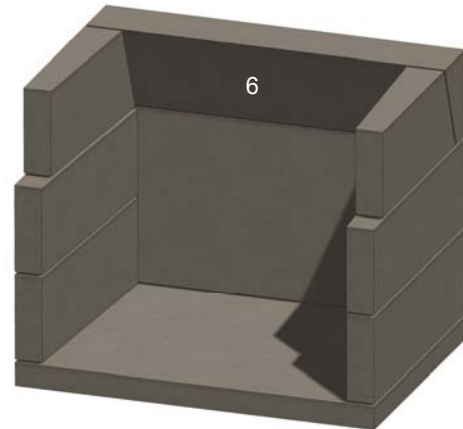

Figure 14. Back Header
G. Install Back Header (6). See Figure 14.